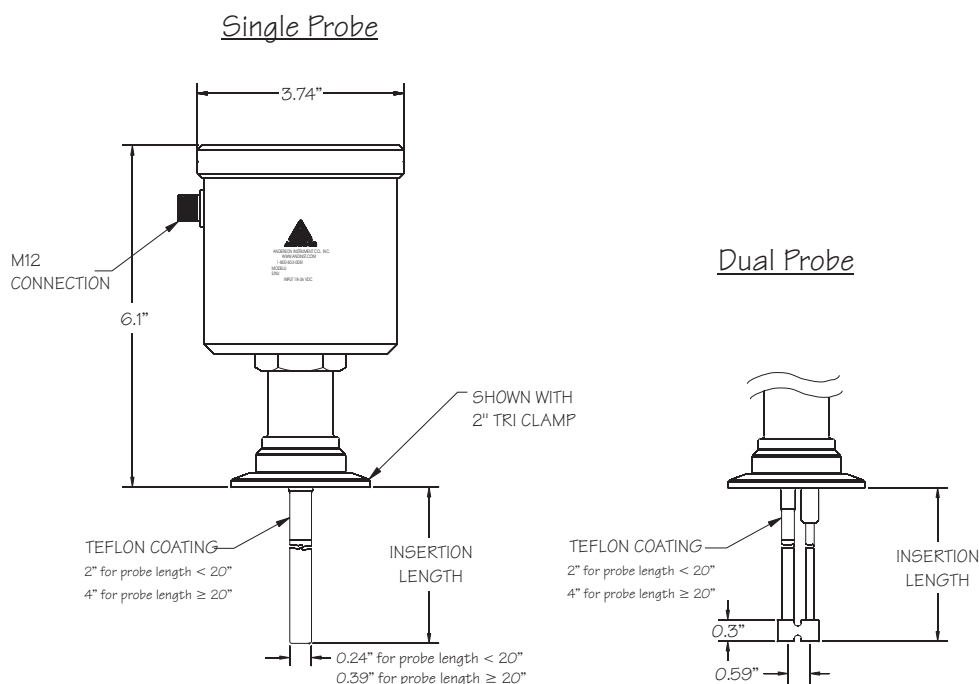

Figure 1
- Fill vessel until level contacts probe. Adjust OFFSET until signal output is 4.0mA (see Fig. 1).
- Fill vessel until maximum level desired. Adjust SPAN until signal output is 20.0mA (see Fig. 1).